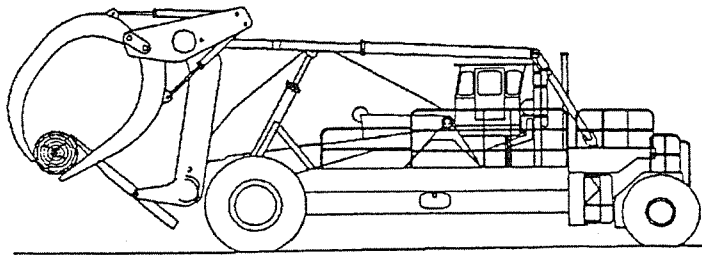

Fig 4-11
- Fig. 4-11 shows a good example of the Lumberjack's flexibility. The log is under the tines and is held by the holddown and kickoff arms. Partial loads should be held with the hold-down and the kickoff arms.